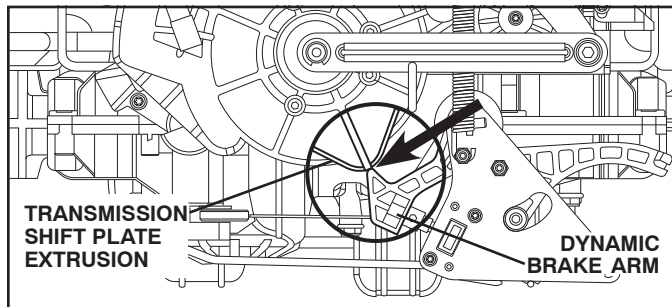

Fig. 35
- Move the shift plate on front of transmission so that the extruded area centerline is in line with the dynamic brake arm. (See Fig. 35)